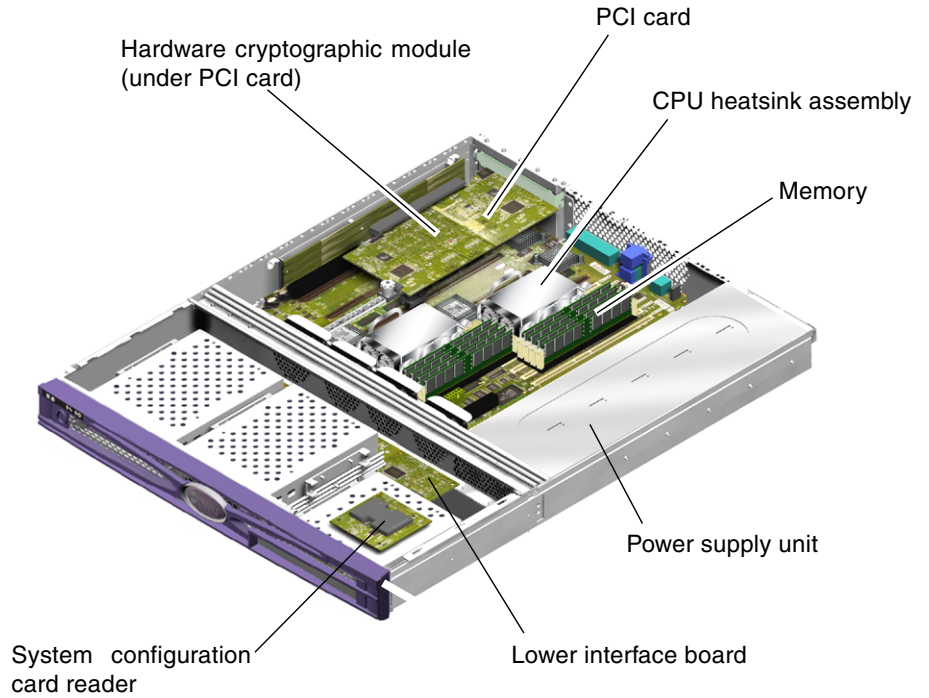
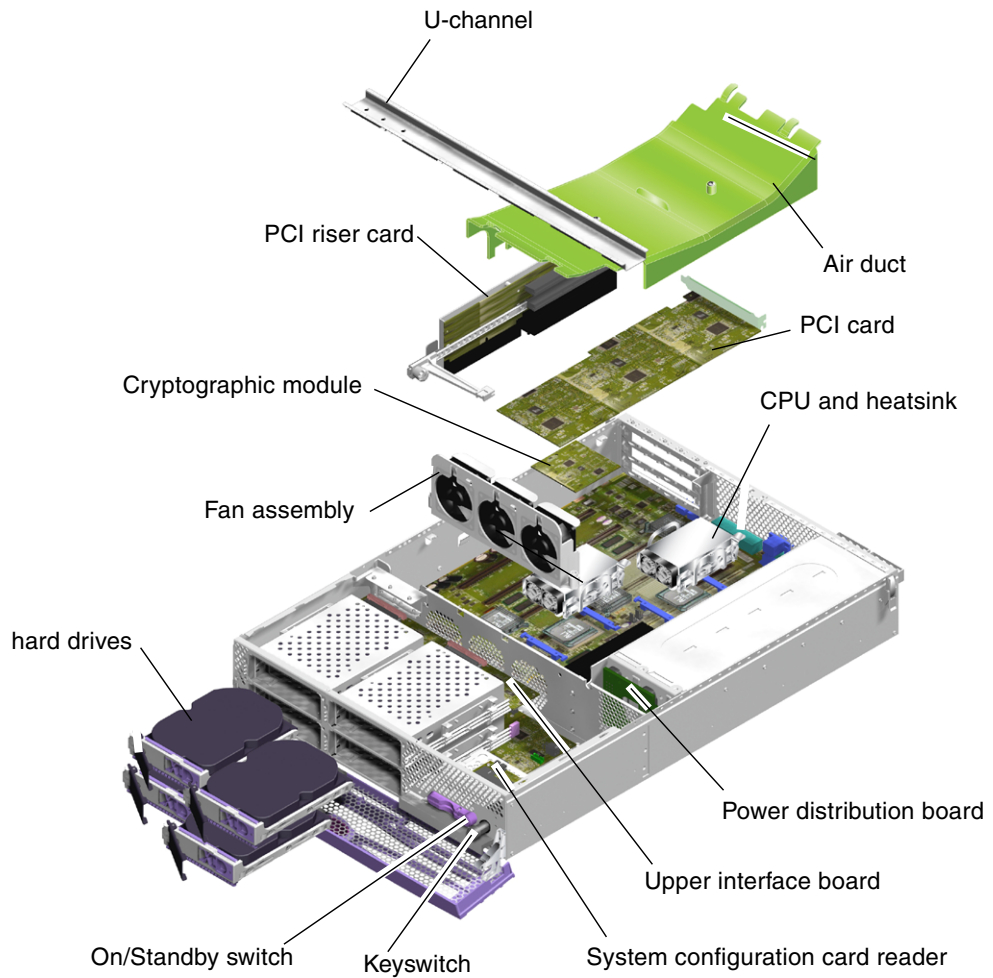

FIGURE 1-7 Location of Major Components in a Sun Fire V210 Server
FIGURE 1-8 Location of Major Components in a Sun Fire V240 Server
- 4. (Sun Fire V240 server) Unscrew and remove the green air duct (FIGURE 1-8).**
The internal components of the server are located in FIGURE 1-7 and FIGURE 1-8.